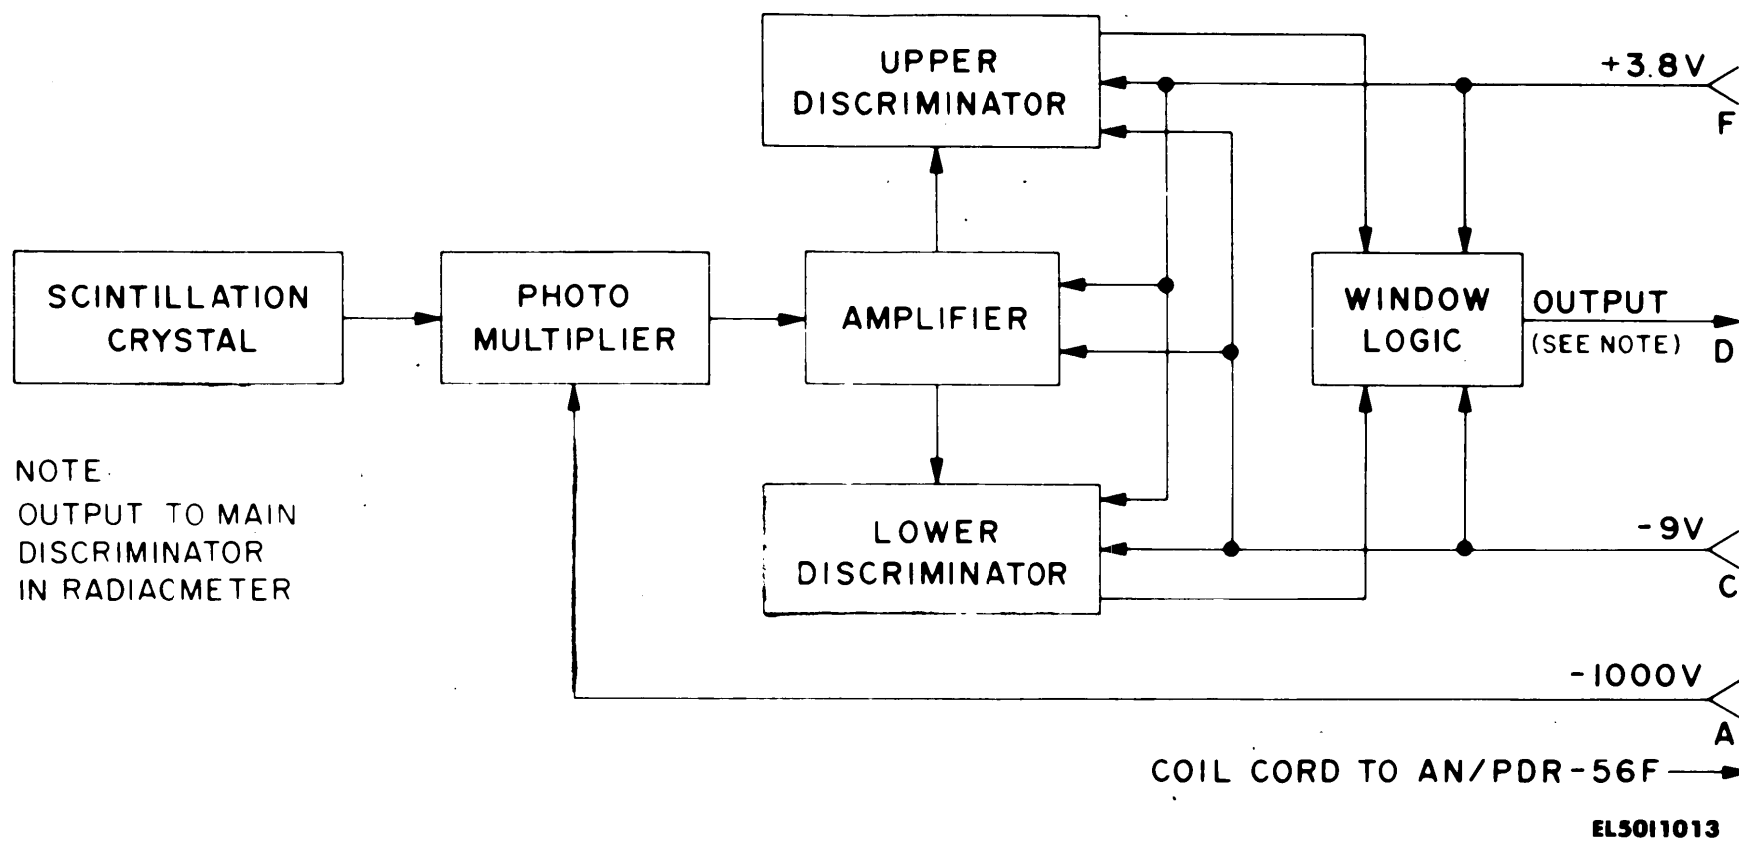

Figure 2-2. X-Ray Probe Block Diagram
d. *Discriminator.* This block represents two transistors connected to discriminate between low level random noise and actual signals. The discriminator allows signals to pass to the next block, but eliminates the noise signal. The output signal from this block is a constant amplitude pulse which coincides with the light pulse to the photomultiplier (PM) for the beta probes. With the x-ray probe, which has an amplifier-discriminator circuit integral to the probe (self-contained with a scintillator-photomultiplier combination), the resulting signal is coupled to the main discriminator as shown in the block diagram at Figure 2-2.